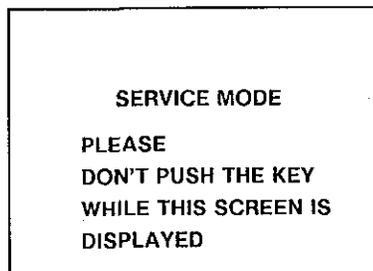

Fig. 1
- 5) Press the [CONTROLES DE IMAGEN Δ/∇] keys to obtain the service mode screen indicated in Fig.1.